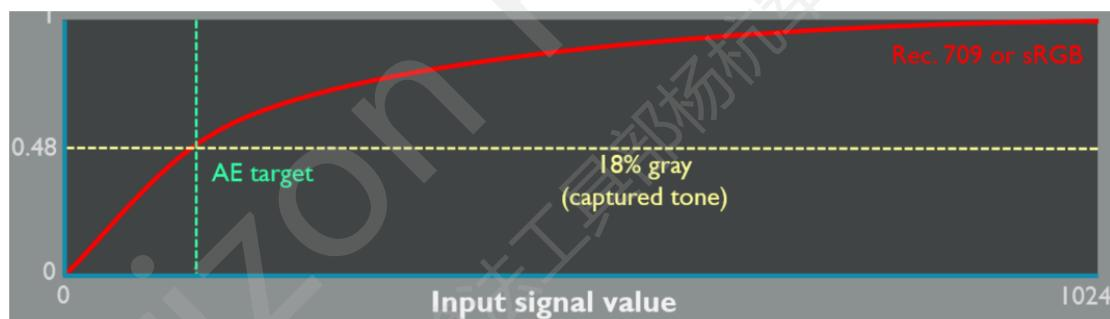

Figure 3.1-3 Correctly tuned AE target
- The value of AE_LDR_Target is within the acceptable range. When AE is applied, the average output value of the image histogram as Figure 3.1-3. The histogram mean should be the same as the brightness of patch 22 in ColorChecker or equal to 48% of the maximum pixel value. For example, to use Rec.709 type S-curve to enhance the contrast, the AE_LDR_Target value represented by the 10-bit histogram is around 256. An example of this is presented in Figure 3.1-3.